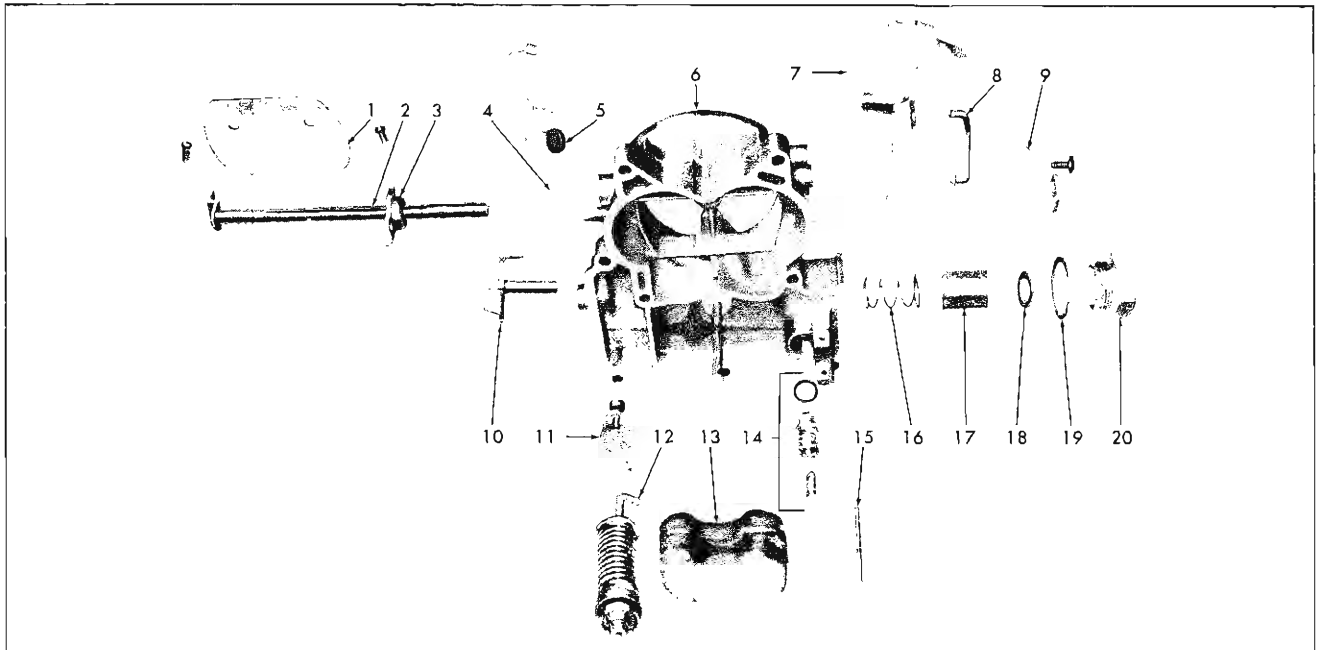

Fig. 33—Bowl Cover—Exploded View
Bowl Cover (refer to Figure 33)
11. Remove the cover gasket. Figure 33 shows the bowl cover exploded.
Bowl Cover (fig. 33)